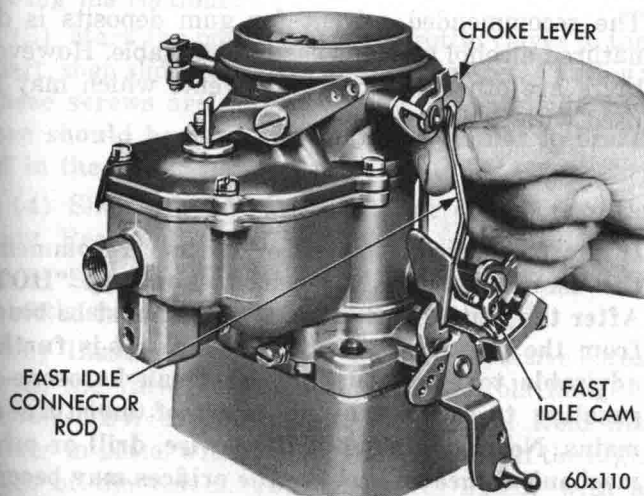

Fig. 3—Removing or Installing Fast Idle Connector Rod
(3) Remove the hairpin clip and disengage the fast idle connector rod from the fast idle cam and choke lever, as shown in Figure 3.
(20) Engage the fast idle connector rod in the choke lever and fast idle cam. Secure with hairpin clip. (Refer to Fig. 3).